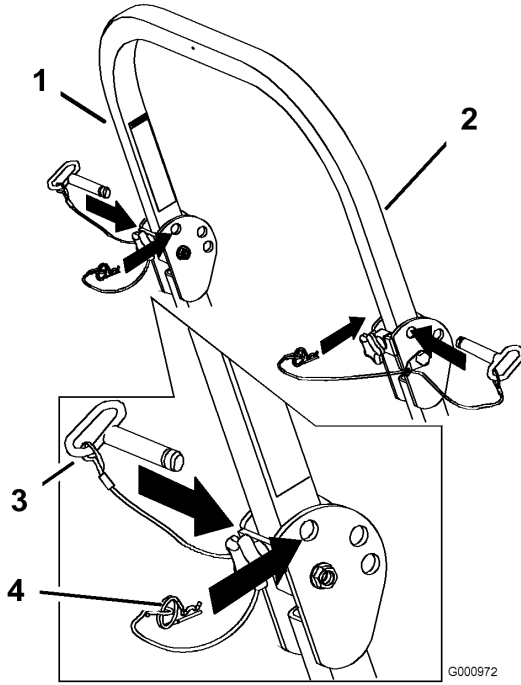

Figure 8
2. Remove the hairpin cotter pins and remove the two pins (Figure 8).
4. Install the two pins and secure them with the hairpin cotter pins (Figure 8).
5. To raise the roll bar, remove the hairpin cotter pins and remove the two pins (Figure 8).
6. Raise the roll bar to the upright position and install the two pins and secure them with the hairpin cotter pins (Figure 8).